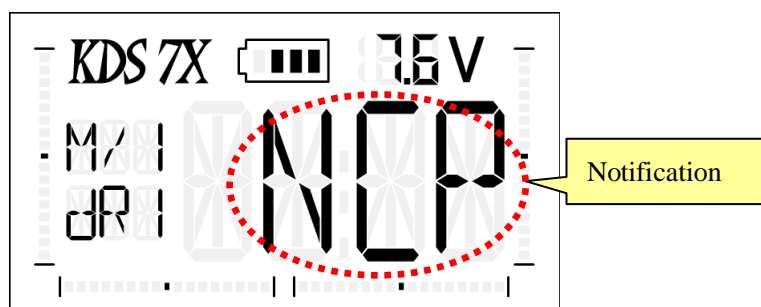

Figure 27 - No Control Protection setting
- 3) Hold ESC button until the screen of transmitter will display 'NCP' like Figure 27, and the RF LED shines, and the LED of receiver will go out at the same time.